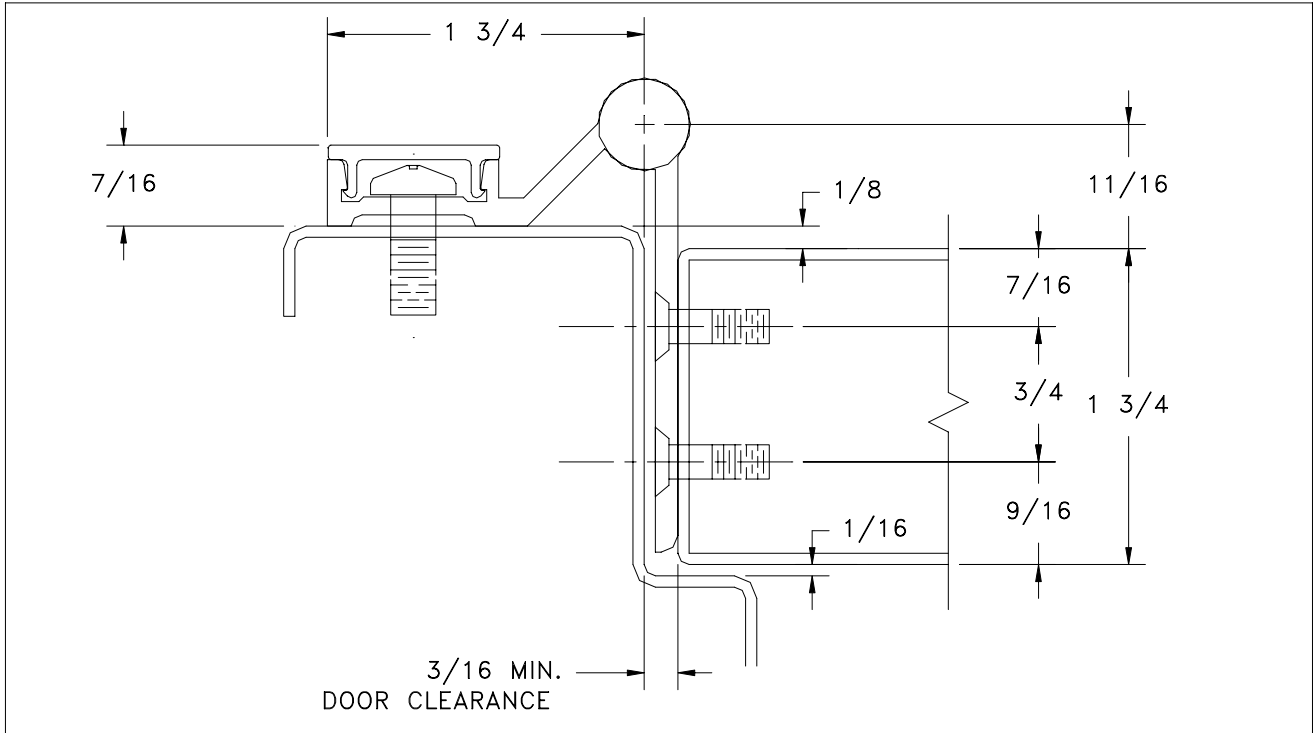

Figure 1: Hinge Placement & Clearance Template
- Perform each step of these instructions unless specifically labeled (A), (B), or (C).
(1) Place the hinge on the edge of the door as shown in Figure 1 on the other side of these instructions. Carefully line up the hinge with the top and back edges of the door.
(2) Mark all the hole locations on the door with the hinge held firmly in place.
(3) Center punch each hole. The use of the Markar MT-806 center punch can help center the hole so that the fasteners will enter straight. The taper on the tool sits in the countersunk hole on the hinge.
(4) (A)&(B) Drill all the holes using a #25 bit.
(5) (A) Attach the hinge to the door with #10 x 1 1/4" flat head undercut sheet metal screws. OR